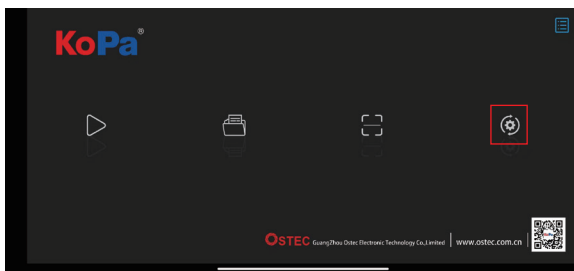
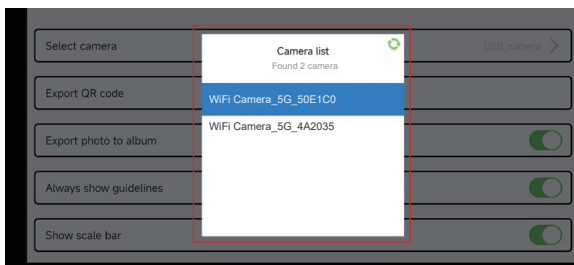

Figure 1
Figure 3
- (1) Connect the cell phones or tablets that supports 5G WiFi IEEE802.11ac protocol to the same local area network as the camera.
- (2) Install and run the App KoPa WiFi Lab on the cell phones or tablets, enter the navigation interface and click the "▶" button.
- (3) When there is only one network camera in the local area network, the App can automatically get the live image from the camera.
- (4) When there are multiple network cameras in the same local area network, click the icon "⚙️" in the navigation interface (Figure 1), pop-up menu (Figure 2). The list automatically shows all cameras in the current local area network (Figure 3), select a camera as needed, support switching midway at any time.